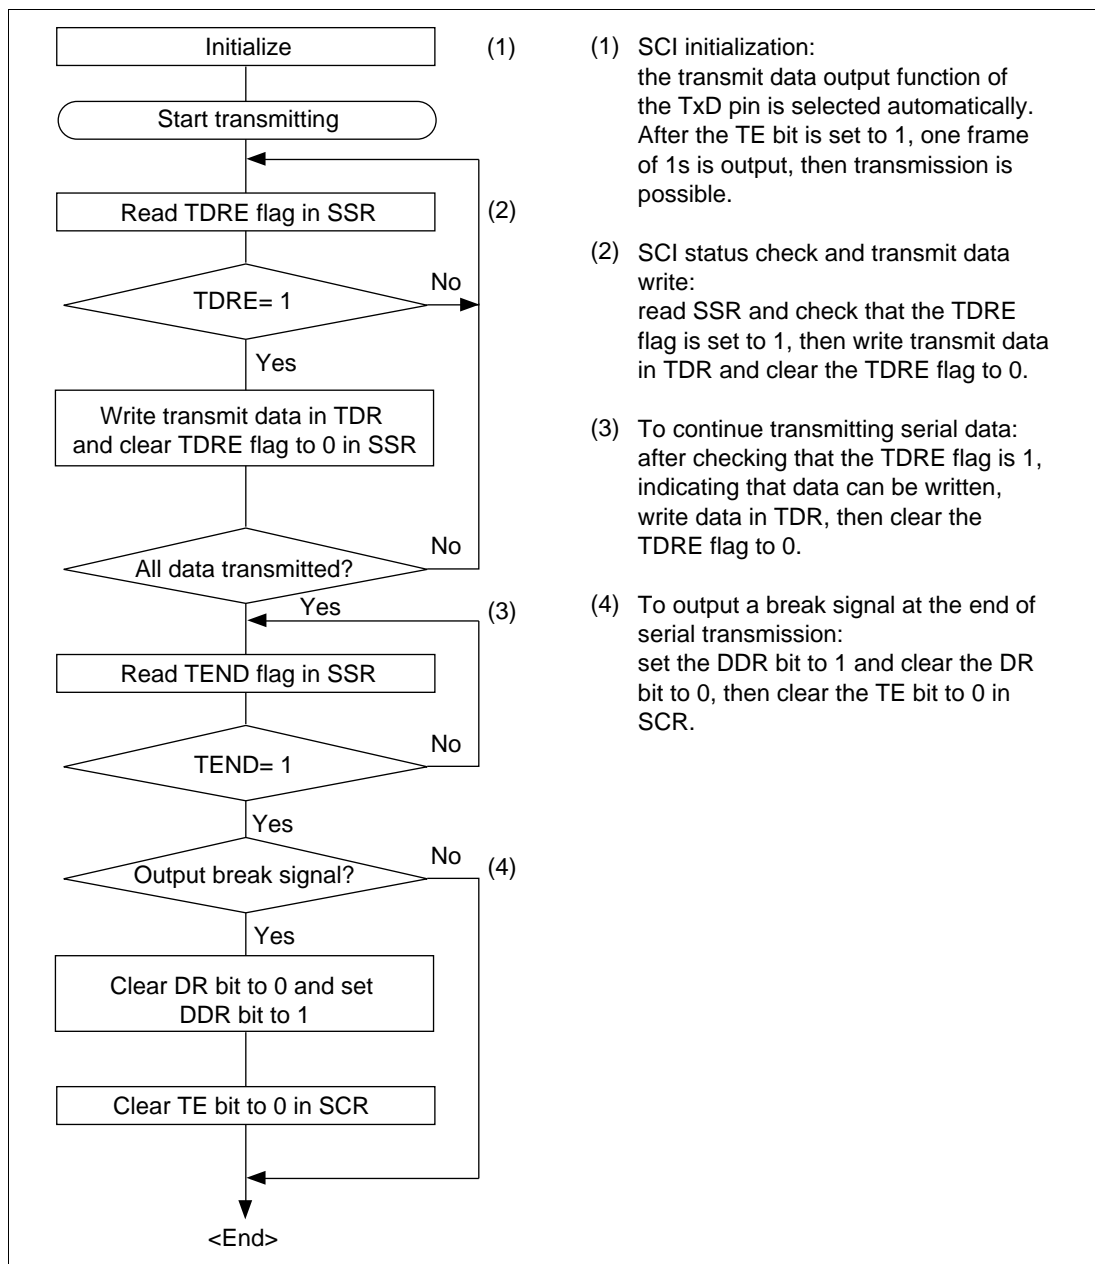

Figure 12.5 Sample Flowchart for Transmitting Serial Data
- Transmitting Serial Data (Asynchronous Mode): Figure 12.5 shows a sample flowchart for transmitting serial data and indicates the procedure to follow.